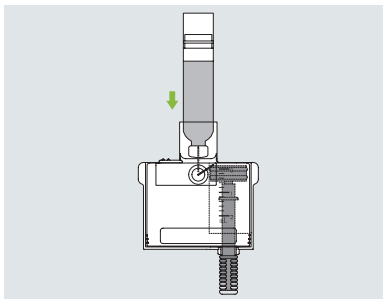

Figure 21
2. Use an alcohol wipe to clean the insulin vial or cartridge and then attach it to the fill adapter as in Figure 21.